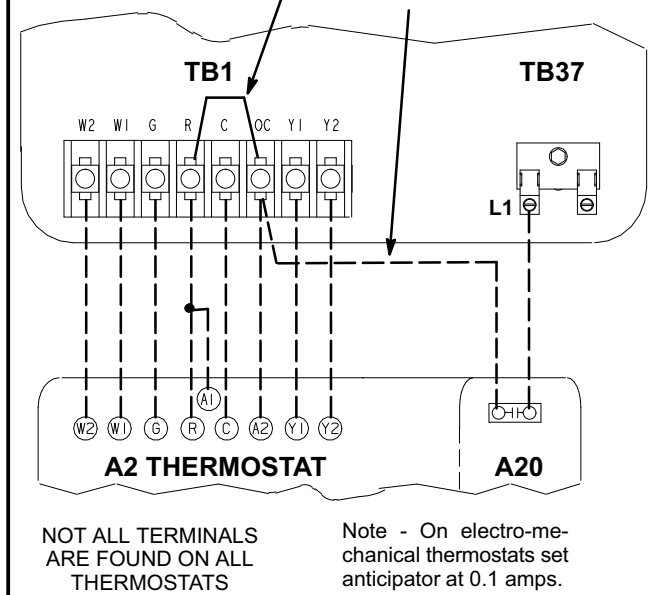

FIGURE 7
- 4- Connect thermostat wiring to TB1 terminal as shown in figure 7 for electro-mechanical and electronic thermostats. If using other temperature control devices or energy management systems see instructions and wiring diagram provided by manufacturer.
- 2- Connect dehumidistat and/or thermostat wiring to TB1 and TB37 as shown in figure 7.